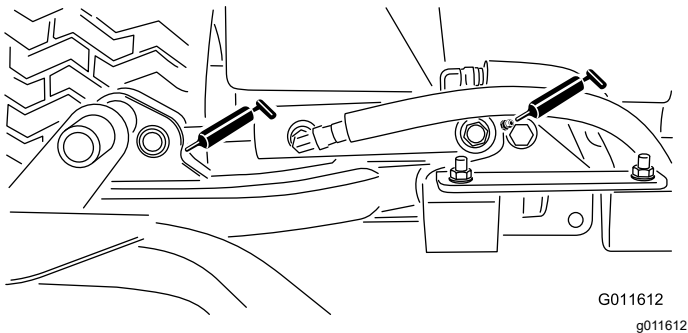

Figure 40
- Cutting unit lift-arm cylinders (2 each)—Figure 40
- Lift-arm pivots (1 each)—Figure 40